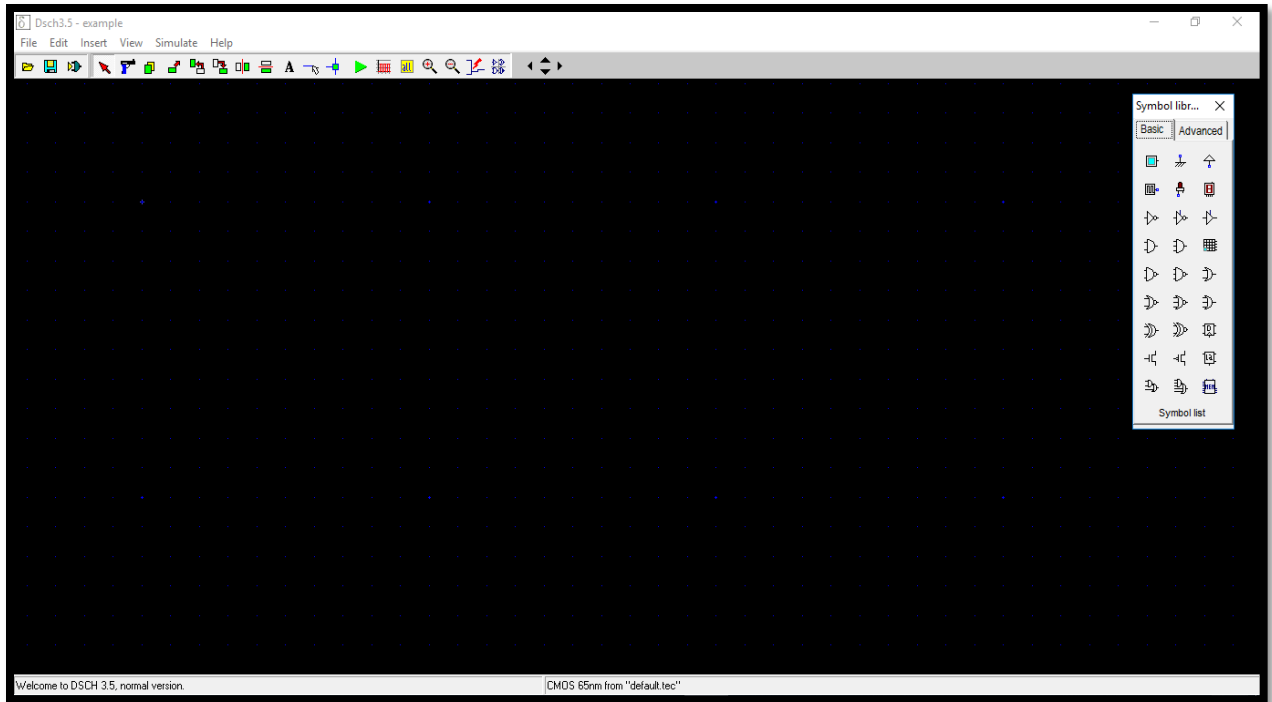

Figure 1: DSCH35_Tool
- To open the DSCH program, open “**dsch35 full**” folder. Then, open “**system**” folder. After that, you will see the program with name “**DSCH35**” and its icon  **Dsch35**. Click on it to open the program and the screen will be as the Figure1 below.